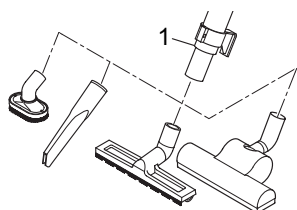

Fig.9
2. Remove the nozzle from the telescopic tube (Fig. 9/1).
3. Push the desired nozzle onto the lower end of the telescopic tube (Fig. 9).